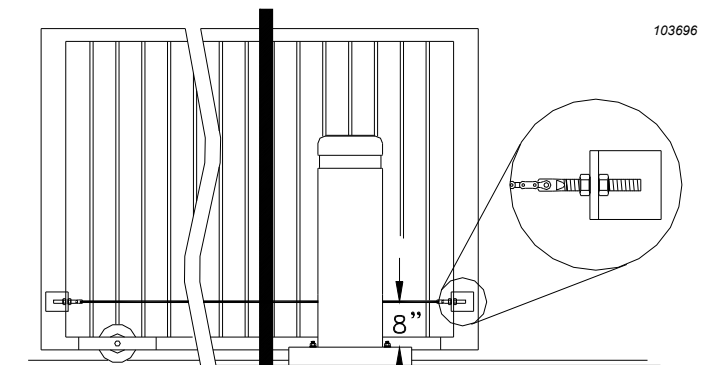

Figure 9: Chain Configuration
For a saw-cut installation, observe the method recommended in Figure 9 for the corners. When installing a two-loop reversing system it is best to bring the twisted lead wires from each loop to the operator so that the loops may be properly phased. The saw cut must be to a depth of 1.5 inches, clean and with no sharp corners. After placing the wires, it is essential that the wires be held tightly in place by the foam backing and that no voids exist that can collect water which might freeze and push the loop wires out of the slot. The sealant used should match the paving material and should not be hard setting. The lead in wires must have at least six (6) twists per foot.
The chain brackets provided with the RSX1000 operator should be mounted on the the gate with the centerline of the slot 8" above the top of the operator pad. You will normally require a welder or an electric drill with a 3/8" bit to attach the chain bracket to the gate. See Figures 9 and 10.